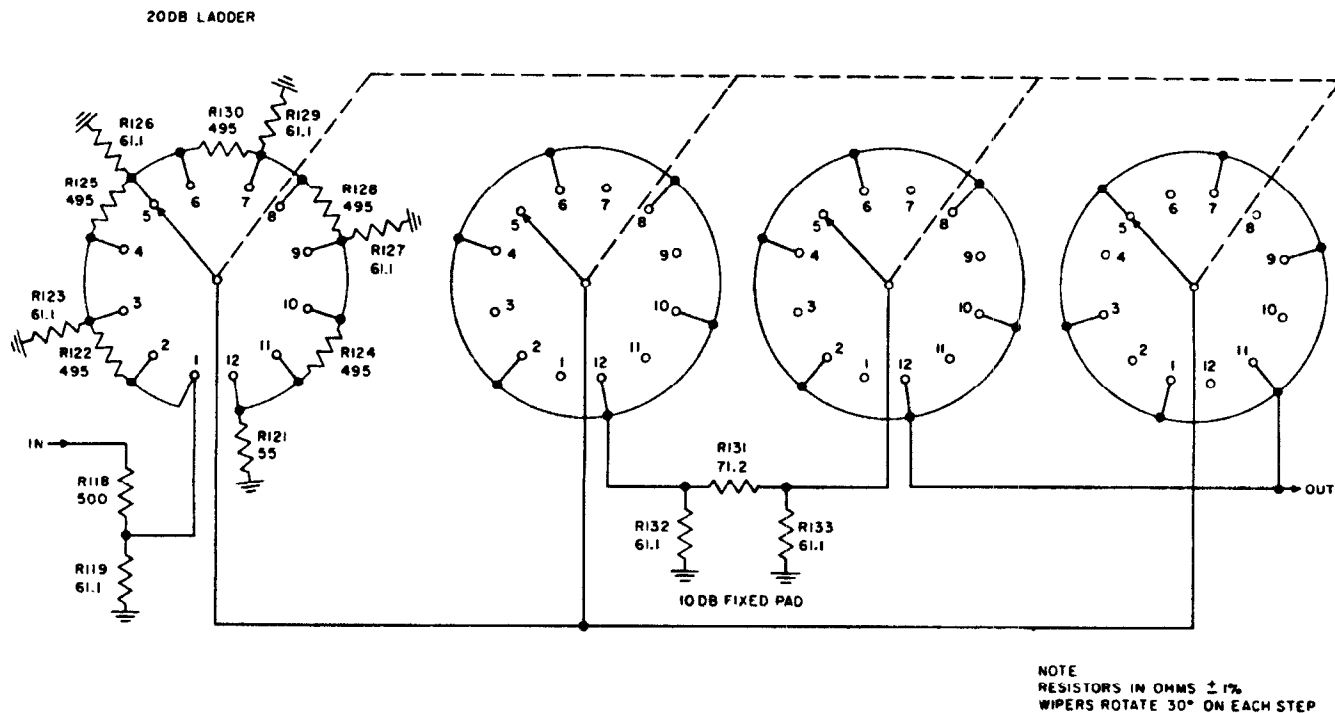

Figure 2-6. RF Output Step Attenuator Simplified Schematic
**5. RF OUTPUT.** (See figure 2-6.)
f. The switching action of the step attenuator is shown in figure 2-6.